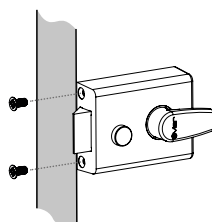

Fig. 6
7. Push the lock body firmly onto the mounting plate so that it clips firmly over the plate – slide forward slightly to lock it into position. Using the two machines screws secure the lock body to the mounting plate (Fig.6).